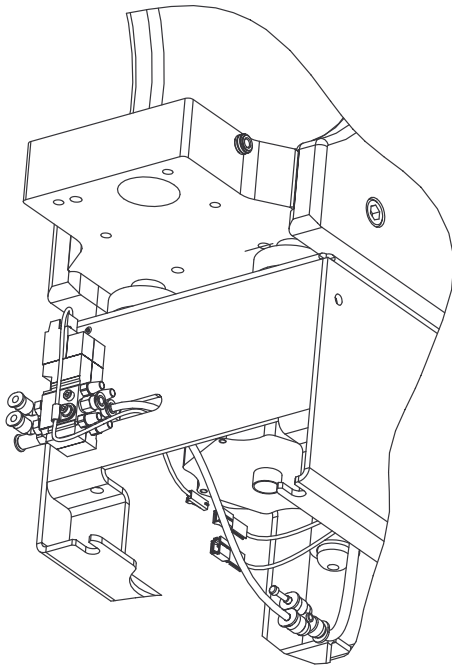

Figure 2
2. Feed both the pneumatic tubing and the control line through the slot in the front wall of the base. (Refer to Figure 2.)